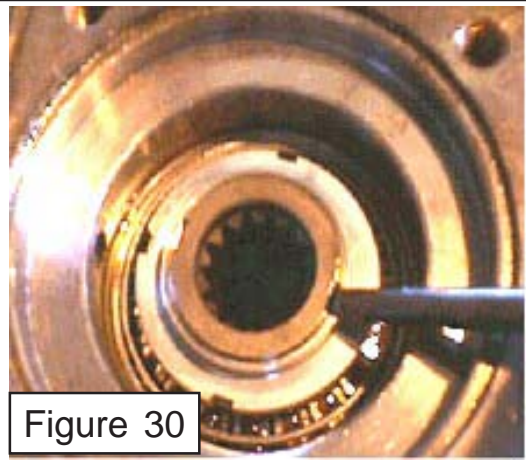

Figure 30
11. Use a punch to stake the bearing nut in place. Be sure to stake the nut at both slot locations. (**figure 30**).